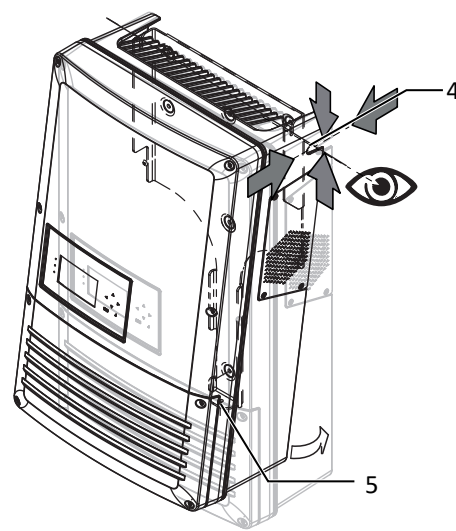

Fig. 15: Fitting the device onto the mount
2. Suspend the device in the mount using the recess on the rear of the device [See figure 15 [▶ Page 19]